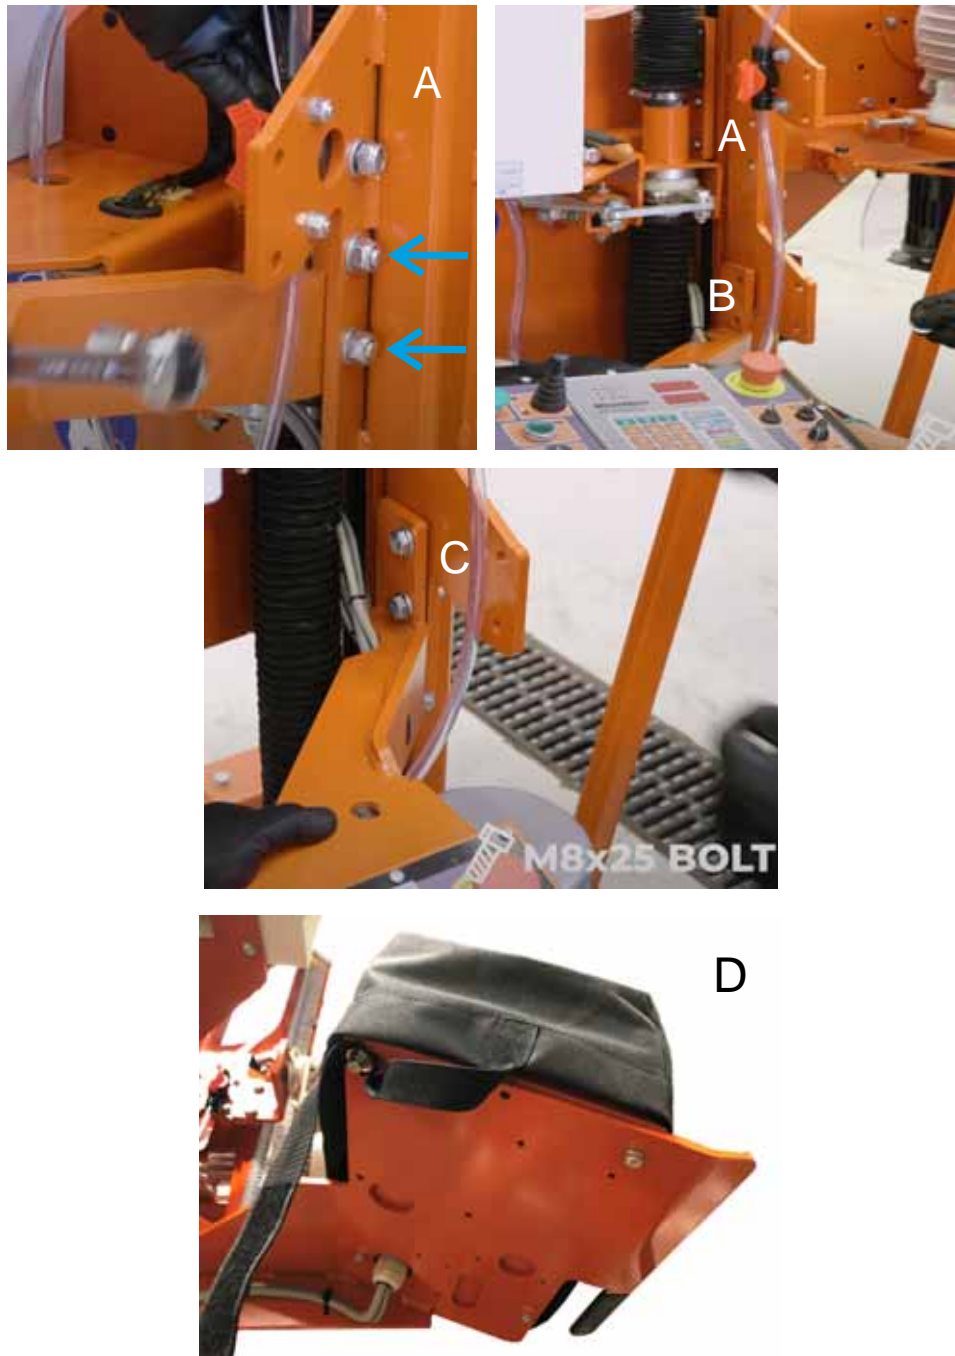

FIG. 3-40
See figure 3-40. Unbolt the M8x25 control box mounting bolts (A) and install the control box in the place shown in the figure below (B) using the same M8x25 bolts (C). Bolt the control box cover (No. 550414) to the control box base as shown in the figure below (D).